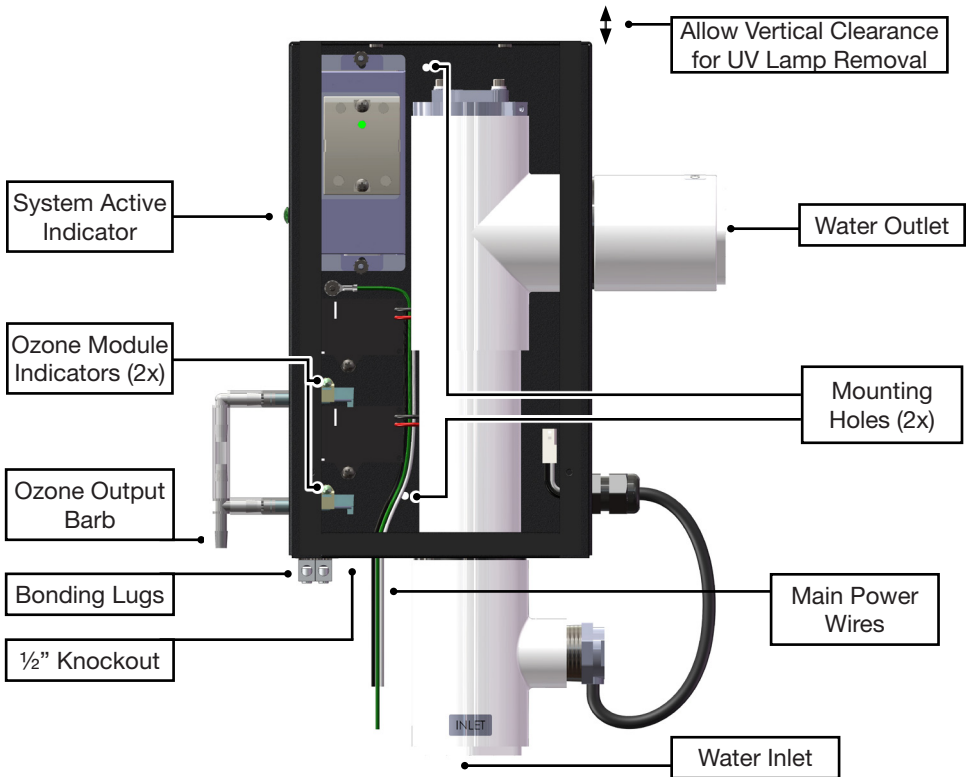

Figure 1: Mounting (cover removed)
- The unit must be installed in an outdoor location, or indoors in a forced air ventilated room, and installed so that the orientation is exactly as shown in **Figure 1** (see page 2).
Mount in a clean, protected area, either indoors or outdoors (preferably out of direct sunlight). Locate out of reach of sprinklers or drainage spouts. Mount in the orientation shown in **Figure 1**, using the two mounting holes provided inside the enclosure. Allow sufficient clearance in front for internal access, and above for service of the UV Lamp and Quartz Tube (13 inches). The DEL AOP 25 should be installed at least one (1) foot above the maximum water level. See Section **2C-3. Check Valve Assembly**, for plumbing instructions based on mounting location.
2. Refer to **Figure 1** to mark the locations for the two mounting screws.